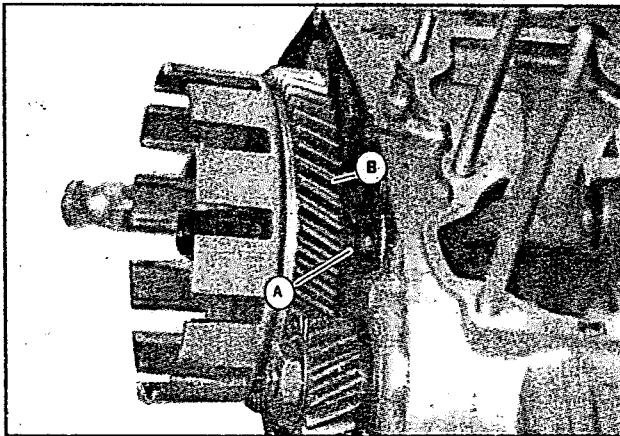

Fig 3.86
Match the Dogs (A) of countershaft with slots B of primary driven gear. (fig 3.86)